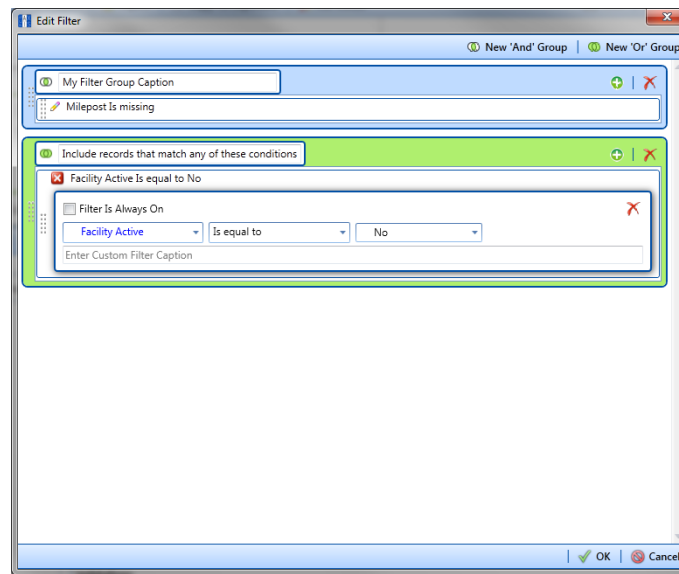

Figure 9-38. New 'Or' Filter Group
- Click  **New 'Or' Group** to open a filter properties group box (Figure 9-38).